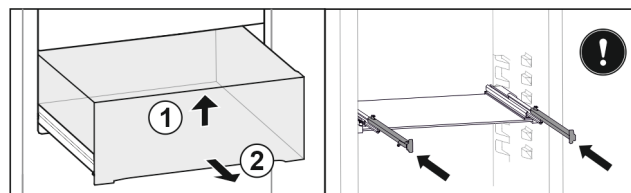

Fig. 82
- ▶ Lift up drawer at the front. Fig. 82 (1)
- ▶ Remove drawer to the front. Fig. 82 (2)